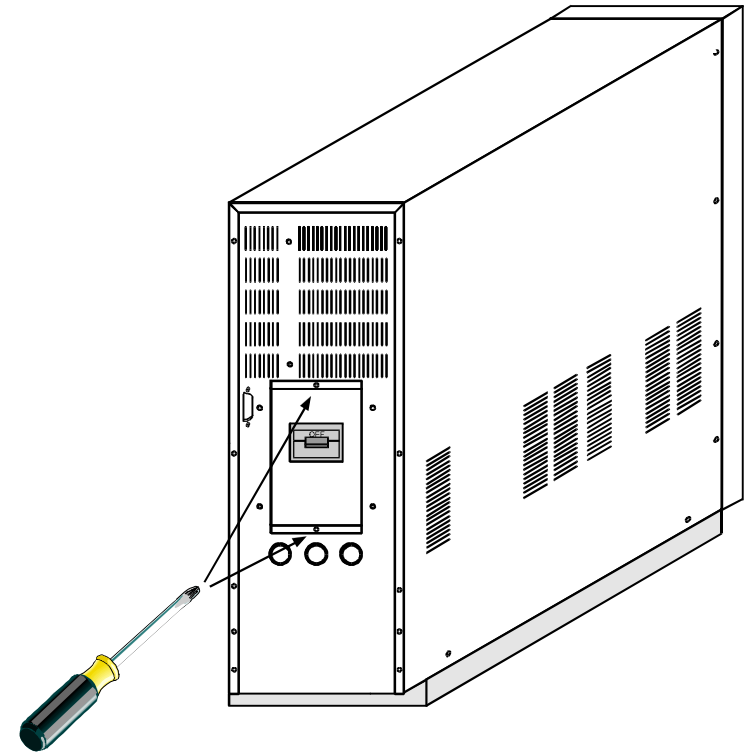

Figure 12
1. First, detach 2pcs screws on the rear panel with a screwdriver to find the terminal block. (Fig.12,13)